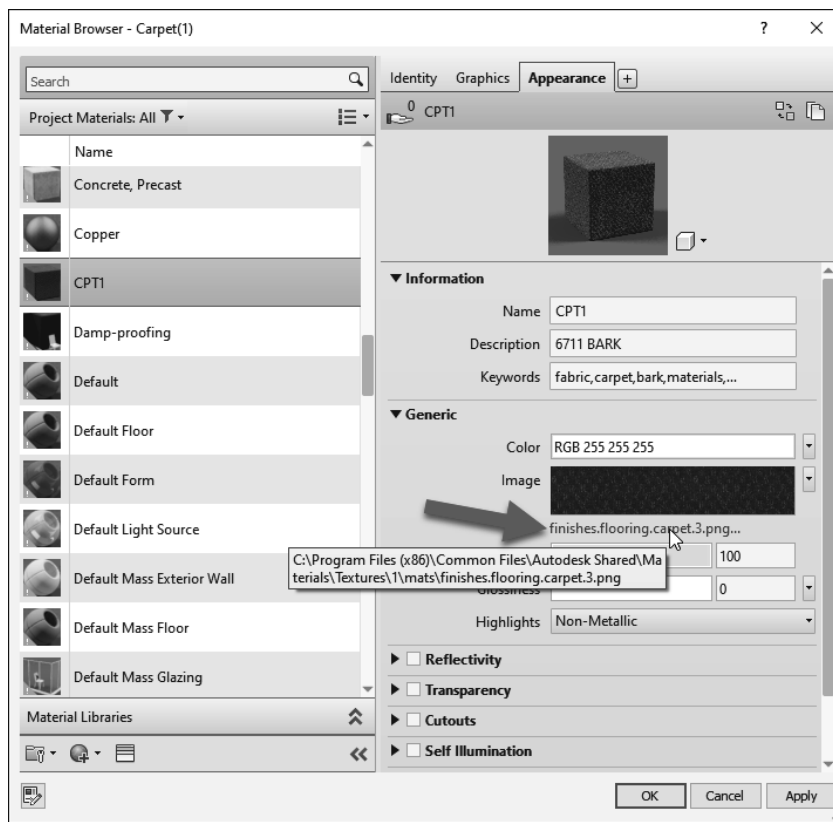

FIGURE 4-3.9 Selecting a new image file for appearance asset
22. In the *Generic* section, click on the file name link pointed out in Figure 4-3.9.